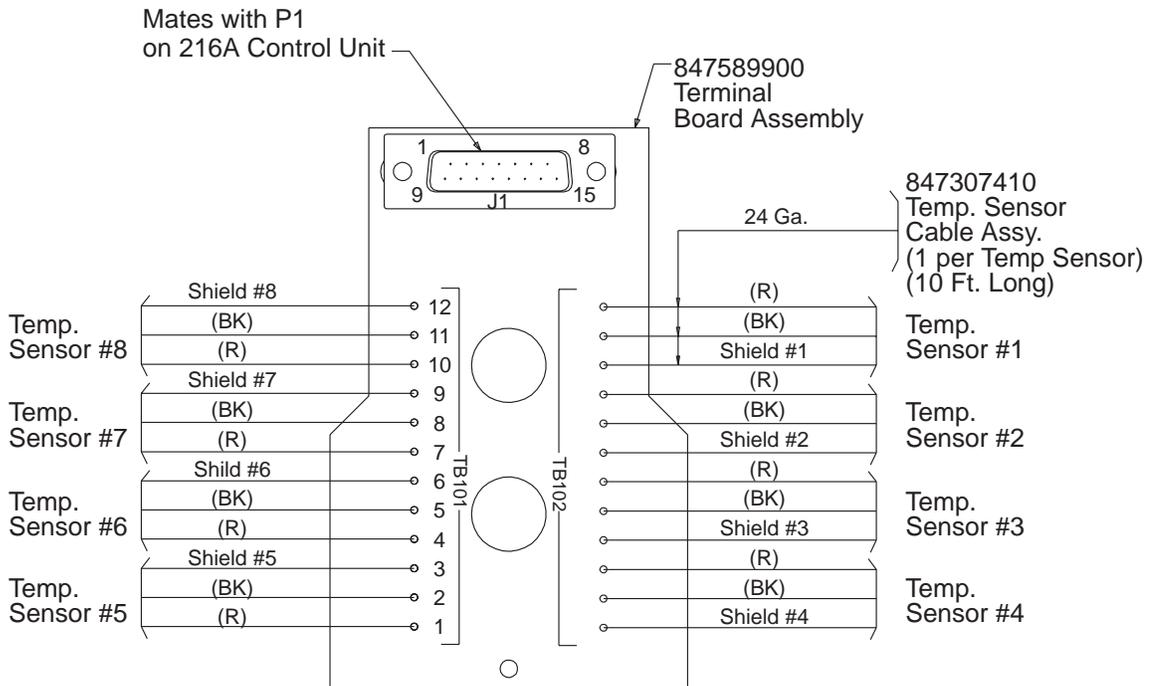

Figure 4-11: Terminal block assembly
3. Connect all thermistor wire sets (max. = 8 per 216A) to terminal blocks TB101 & TB102 as shown in Figure 4-11. **The ambient temperature of the thermistor must be between 0°C (32°F) and 53°C (127.4°F)** when the wire set is connected to the Terminal Block Assembly in order for the proper temperature to be sensed by the 216A Control Unit.